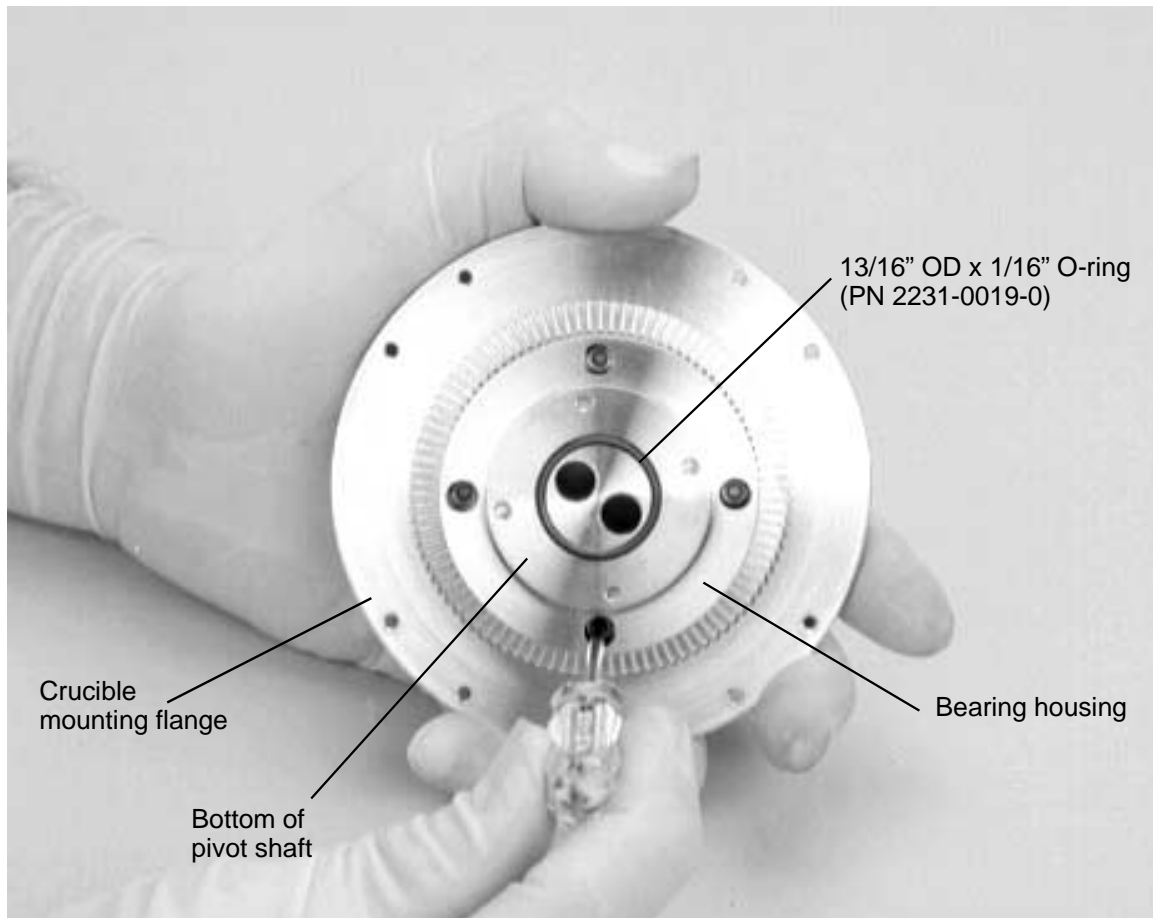

Figure 6-19. Removing the screws securing the bearing housing assembly to the crucible mounting flange
Step 22: Remove the four 6-32 \times 5/8-in. screws that secure the bearing housing to the crucible mounting flange. To do so hold the bearing housing-mounting flange assembly in one hand, with the top of the mounting flange facing down. Then insert the Allen driver into the recesses in the bearing housing that hold the four screws and remove them, as shown in Figure 6-19.